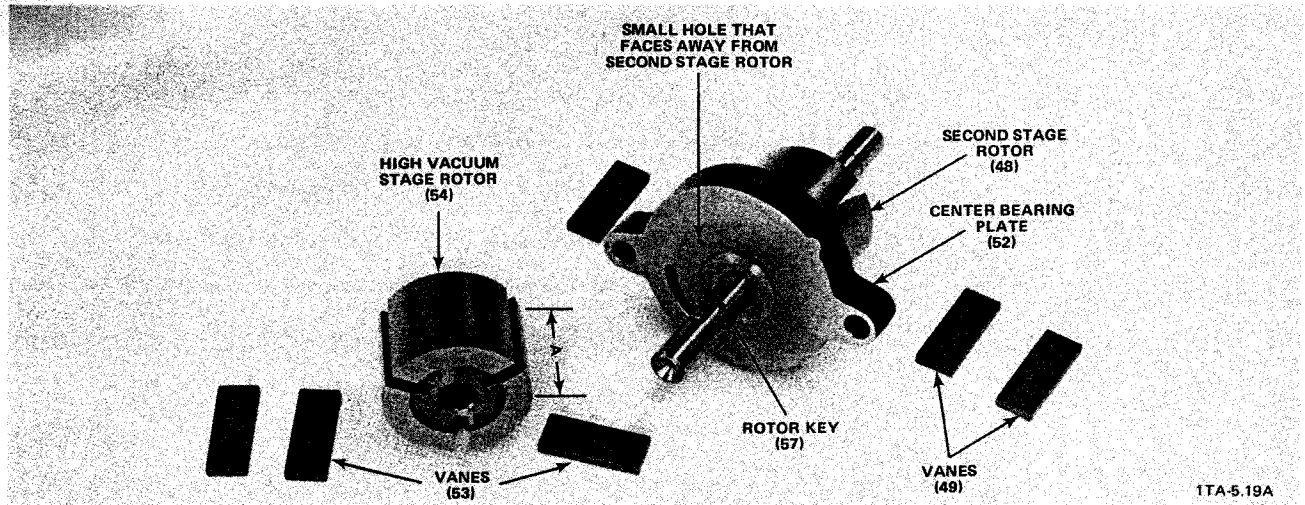

Figure 5-9. High Vacuum Stage Rotor Removed From the Shaft (D2A Pump Model Shown)
- C-18 Using small diagonal cutting pliers, pull the high-vacuum-stage rotor key (57) from the slot in the shaft (see Figure 5-9).
- C-19 Slide the center bearing (52) off of the shaft (see Figure 5-9).
- d. **For D30A, D60A, and D90A pump models only,** clean the brass air nozzle screw (66) located inside of the intake tube portion of the high vacuum pump cylinder (55).
- e. The tiny silencing hole in the side of the gas ballast valve (17) stem just **below** the bolting flange - use fine wire to clear any dirt from the hole; **DO NOT ENLARGE THE HOLE.**
- E-4. Using a brush, thoroughly clean the center bearing (52). (See Figure 5-9.)
- E-5. Clean all dirt accumulation or buildup from the three vane slots in each rotor (48/54). (See Figure 5-9.)